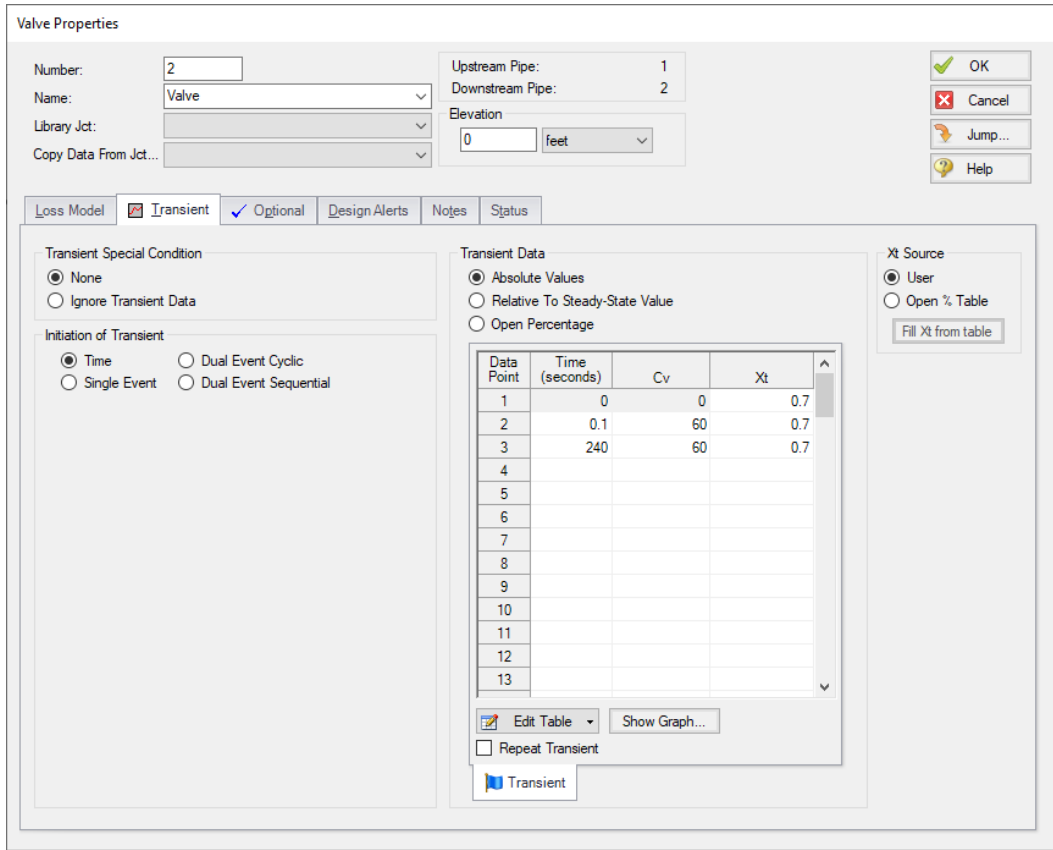

Figure 2.10 Transient input data for Valve junction J2
- Click the Transient tab and select "Time" under "Initiation of Transient" to indicate that the valve closure will be initiated at the time you specify, then enter the following Cv vs. Time data (Figure 2.10).